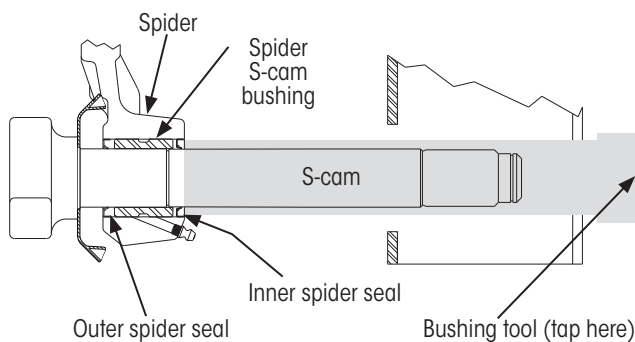

Figure 16: Spider S-cam bushing and outer seal removal
5. **Slide** the bushing tool (Figure 15) over the end of the S-cam, and press it against the inner spider seal (Figure 16).
6. **Tap** on the end of the bushing tool to drive the inner spider seal, spider S-cam bushing and the outer spider seal out of the spider (Figure 16).